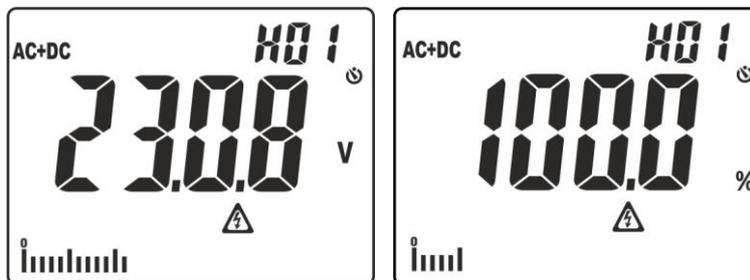

Fig. 3: Display of amplitude of harmonic analysis
- Simple pressing of the key to display the amplitude of voltage and current harmonics up to the 25th (**Hdc**, **H01... H25**) in absolute or percentage format in relationship with the fundamentals of input signals (for voltage values $V_{AC} > 0.5V$ and current values $AC > 0.5A$ and frequency in the range $42.5Hz \div 69Hz$) and the percentage value of parameter **THD%** (see § 9.3) as shown in Fig. 3. Use keys **▲/ZERO** and **▼/Ⓜ** to increase/decrease the order of the harmonic.